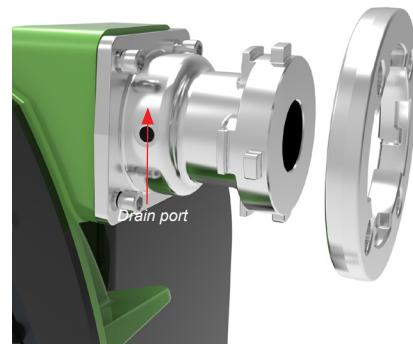

Figure 12. - Drain port without insert
7. Ensure that the hose can be seen only through the drain port on the port flange (Figure 12).